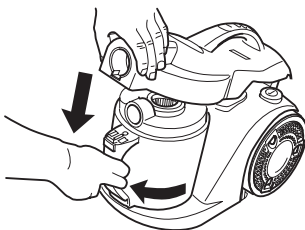

Fig. 27
15. Place the dust container back into the cylinder vacuum cleaner and turn it to the left (Fig. 27).
16. Close the housing cover (Fig. 27). The release buttons must click shut audibly. Check that the housing cover is fitted securely.